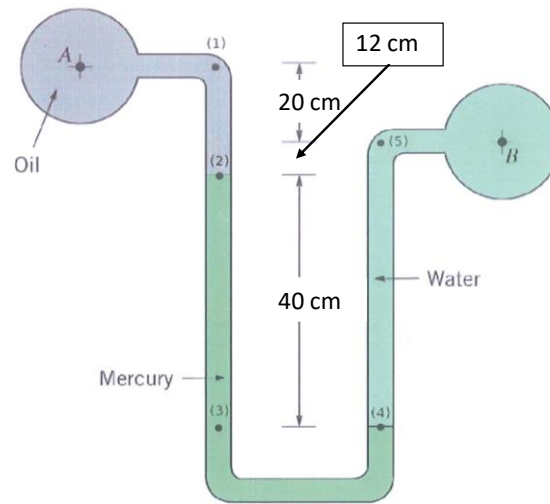

Fig. 1. Problem 2 (Young et al., 2012)
2. An U-manometer has oil, mercury, and water as shown in the Fig. 1. What is the pressure difference between the pipes A and B with the given dimensions ? (Prob. 2.22)